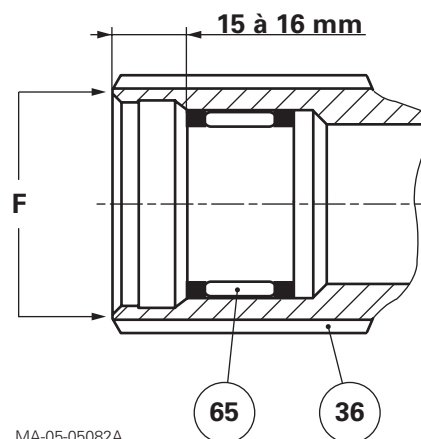

Fig. 24
- 78.** Extract the needle roller bearing (65) from the shaft (36) (Fig. 24) using a slide hammer puller. Discard it.
Replacement (Fig. 24)